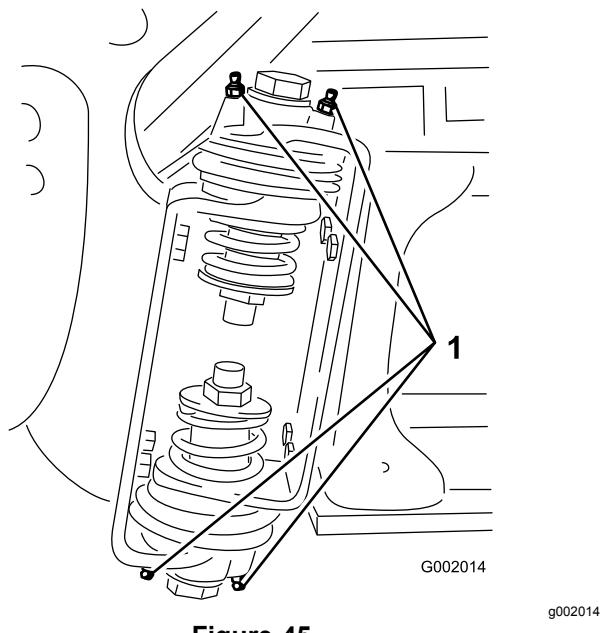

Figure 45
2. Pump grease into the bearing or bushing at each fitting Figure 45.